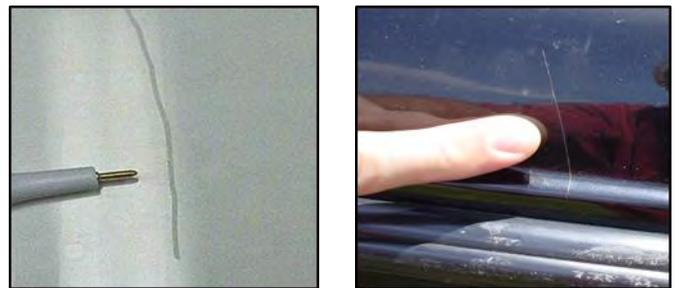

Figure 8-8. Examples of minor gel coat scratches.
- Small areas that have damage to the gel coat only (Figure 8-8).